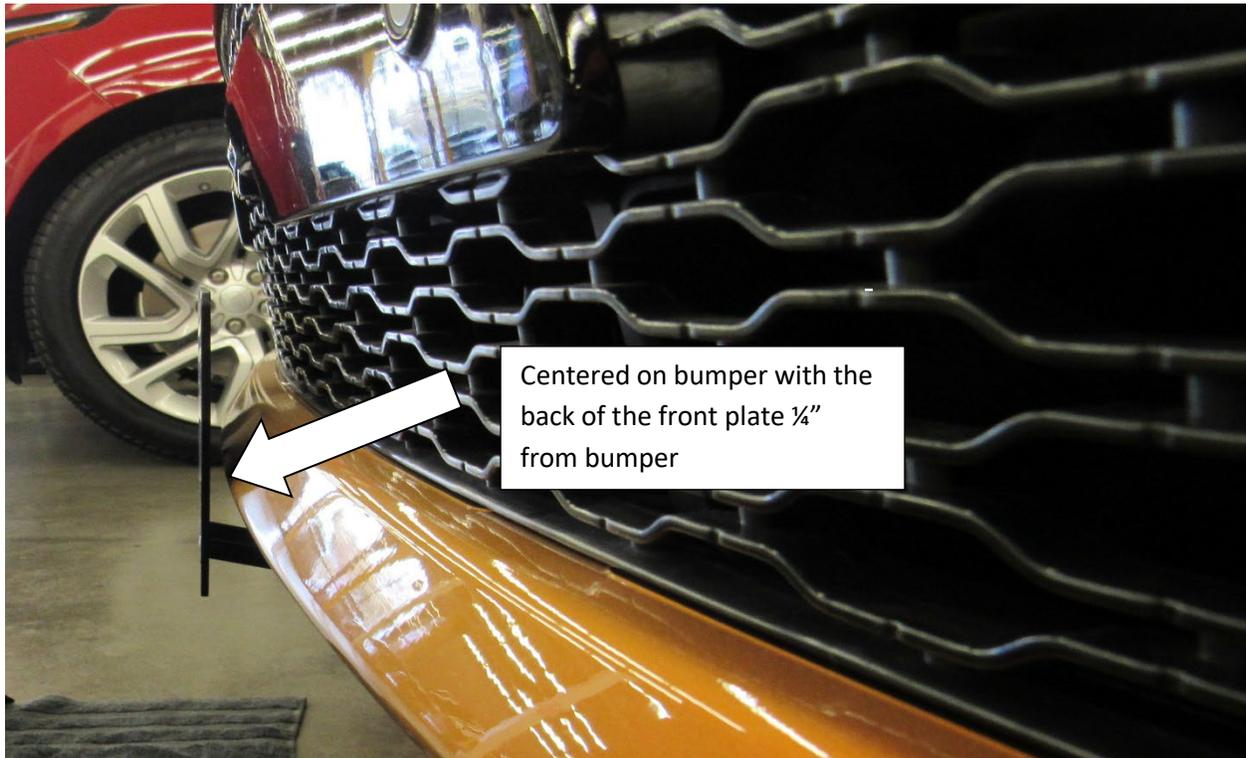

Fig3
Step 4: Once base plate is correctly positioned be sure to mark the alignment using masking tape or any other method that will ensure proper alignment. See figure 3. Thoroughly clean area where 3m Tape will be applied with alcohol pad. See figure 3.